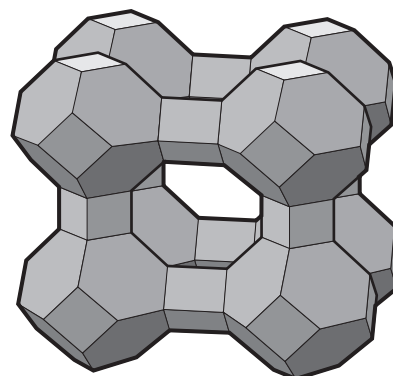

Figure 4 Type A zeolite
- Take eight of your sodalite cages. Use the square tubes to join the cages through their square faces so that the eight cages are at the vertices of a cube. Joining the card shapes represents joining structures together by Si–O–Si bonds. You have made a model of Type A zeolite (Figure 4).